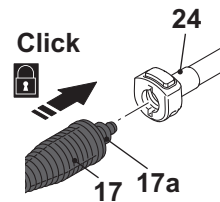

Fig. 6
- > Align the tongues (17a) of the nozzle with the grooves of the connection port of the extension lance (24) (Fig. 6).